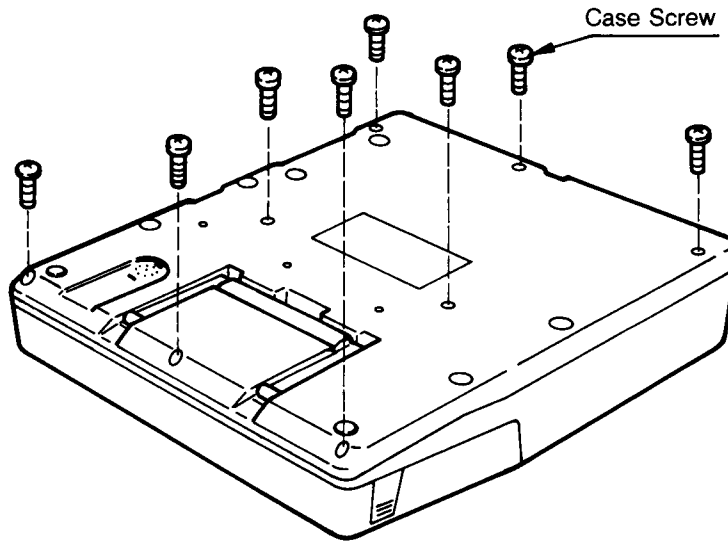

Figure 2-1. Case Screw Removal
- (1) Turn over the unit and remove the eight screws indicated by the arrows on the bottom face. (Figure 2-1)